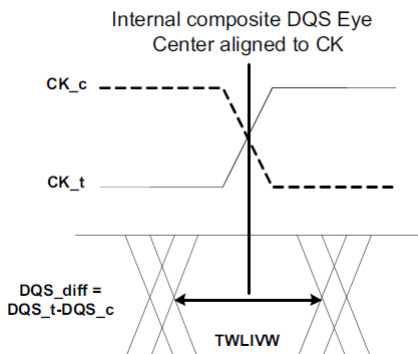

Figure 25. DQS_t/DQS_c to CK_t/CK_c timings at the DRAM pins referenced from the internal latch
- 28) t_{WLIWW} is defined in a similar manner to t_{dIVW_Total} , except that here it is a DQS input valid window with respect to CK. This would need to account for all VT (voltage and temperature) drift terms between CK and DQS within the DRAM that affect the write-leveling input valid window. The DQS input mask for timing with respect to CK is shown in Figure 25. The "total" mask (t_{WLIWW}) defines the time the input signal must not encroach in order for the DQS input to be successfully captured by CK with a BER of lower than t_{bd} . The mask is a receiver property and it is not the valid data-eye.